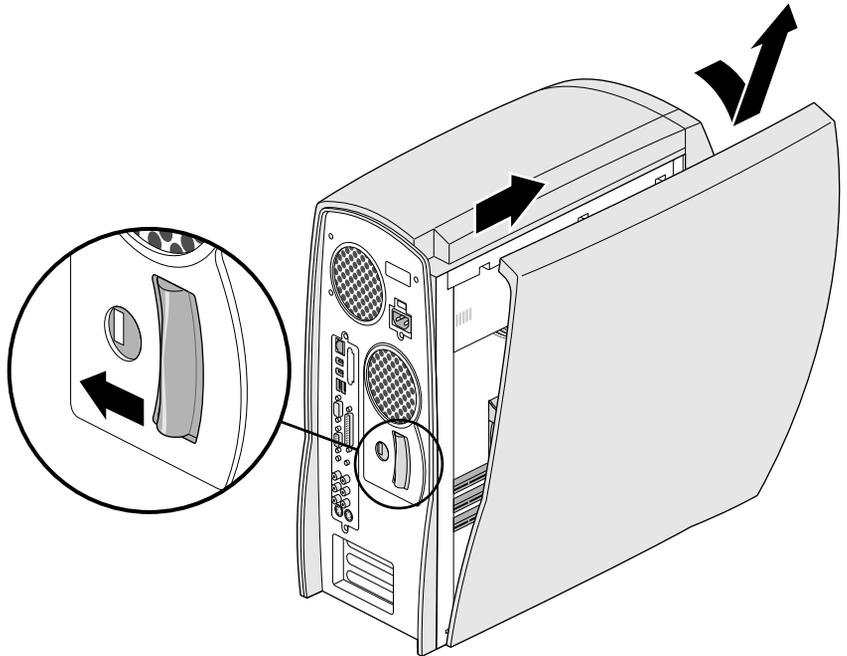

Figure 2-1 Removing the Side Cover
1. Push the latch on the back of the system to the left to unlock the cover, as shown in Figure 2-1.